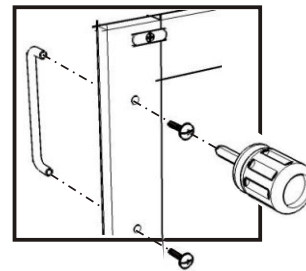

Figure 1
Attach Pull Handles to Door (S) and (T), using Machine Screws. (See figure 1)
Place the selected 'Top' on the unit, attach it to the body with the Steel Plate Connectors, Flat Washers, Spring Washers and Head Cap Bolts. (See figure 1)